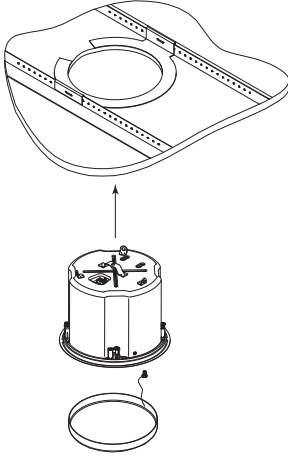

Figure 8: Mount Speaker into Ceiling
Step 4: Mount the Speaker Into the Ceiling (Figure 8)